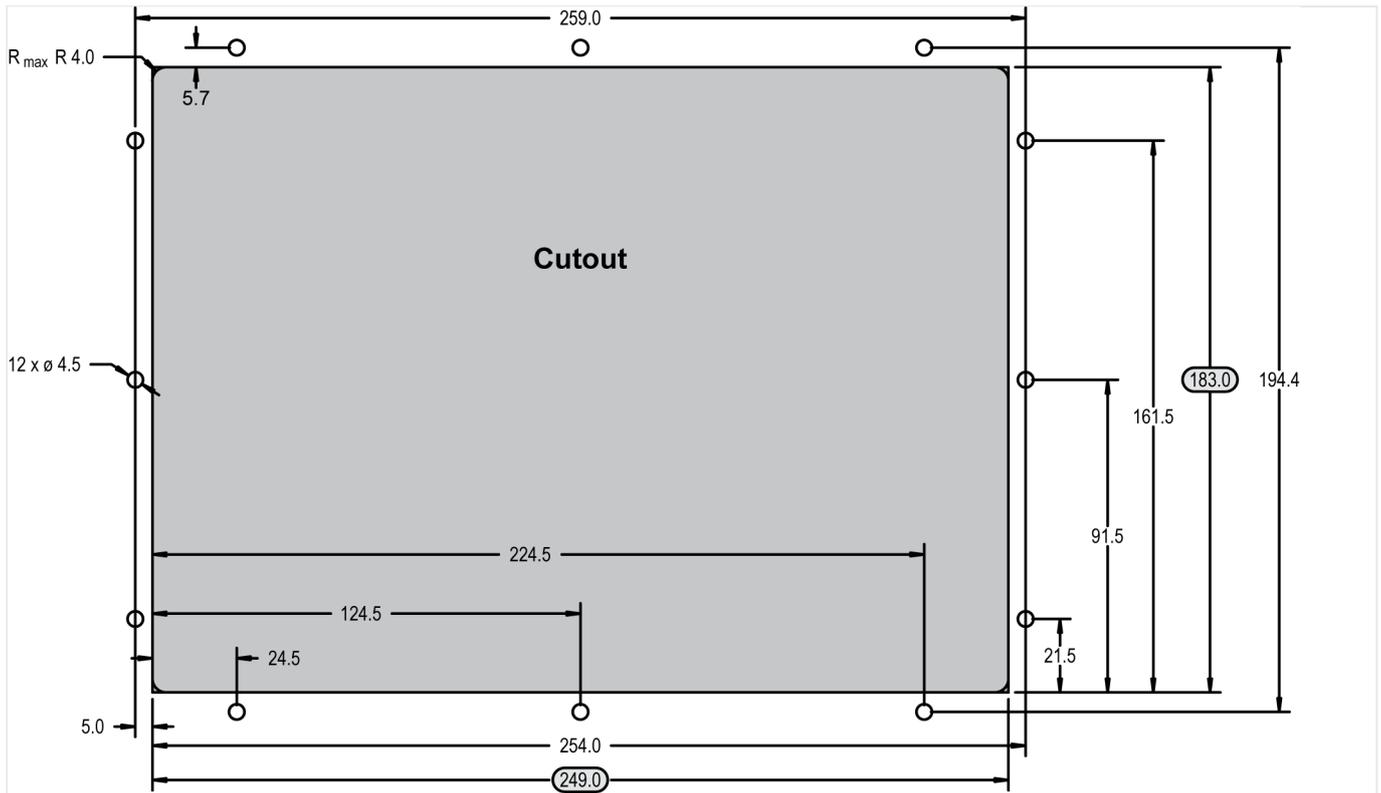

Fig. 16: Plastic housing - drill plan
The housing is equipped with 12 nut inserts (↳ Fig. 16), which must all be tightened properly to achieve the required degree of protection.
1. ▷ Cut out the panel and drill the holes according to the dimensions in Fig. 16 (dimensions shown in mm).